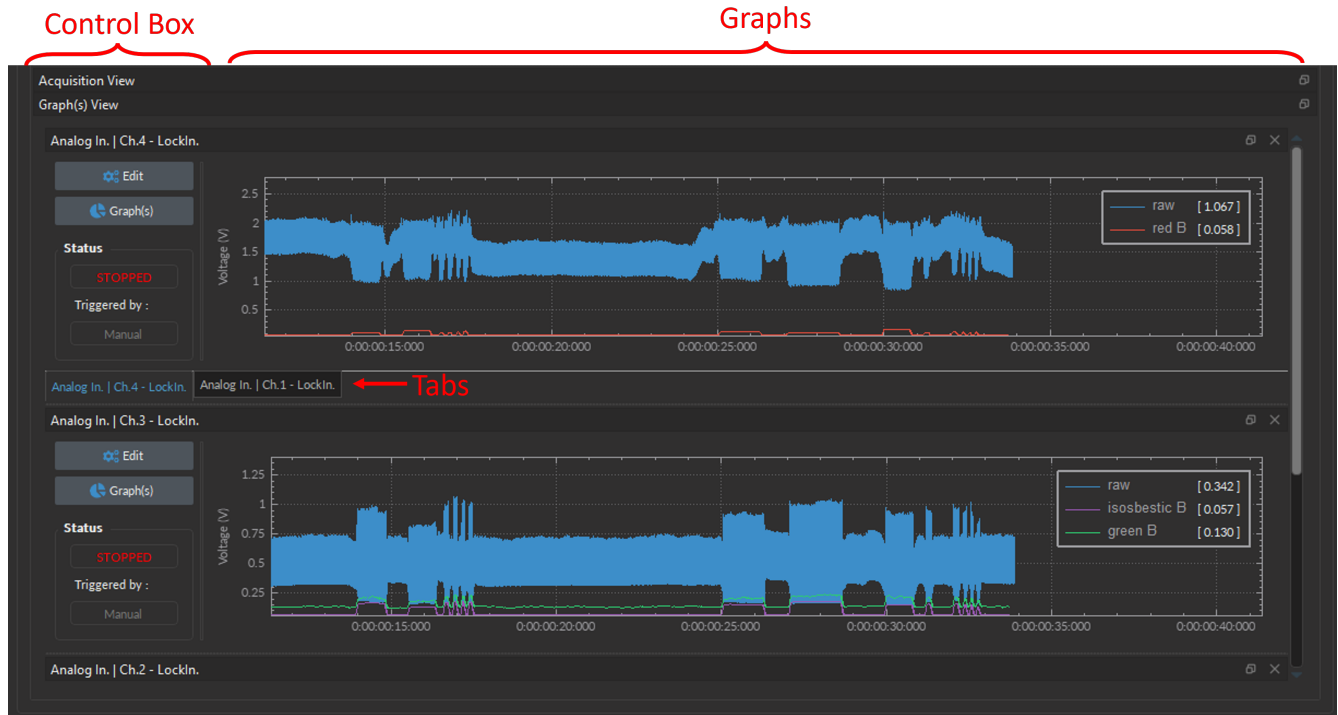
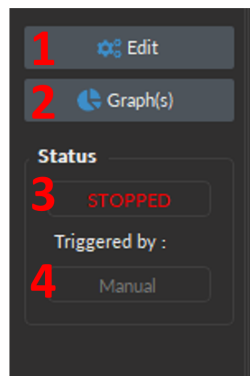

Figure 6.44: Acquisition View Interface
Figure 6.45: Control Box
The **Acquisition View** displays all the information concerning active channels: **Control box** (Fig.6.44) and the **Graphs** (Fig.6.45).
Each channel **Control box** shows the following basic elements (Fig.6.45), with additional elements available for specific channel types:
1. The **Channel Name** (Fig. 6.45, 1) is located on the upper left of the **Control box**, identifying the type of channel and its number, corresponding to that on the console. This name can be modified in the **Graph options** window (Fig. 14.36).
- The **Edit** button (Fig. 6.45, 2) opens the **Channel Configuration** window, where channel parameters can be modified (See section 6.4.1).
- The **Status** bar (Fig. 6.45, 4) displays acquisition status. **STOPPED** is displayed when the acquisition is inactive, and **STARTED** when acquisition is active.
- 5. The **Triggered by:** (Fig. 6.45, 5) text-box displays the source of the trigger for that channel, which can either be Manual (i.e. selecting the **Record/Live** button) or a specific channel that provides external trigger signal.
- The **Channel tabs** (Fig. 6.44, Tabs) appear in certain input modes (such as **Interleaved** and **Lock-in**) where the input automatically sets the output values on separate channels. It is possible to create a **Channel tab** by undocking one channel and moving it above another until it turns blue, then releasing it.